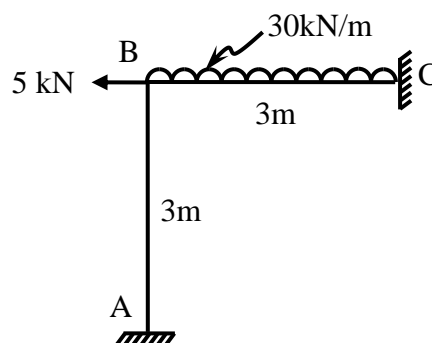

Fig. 2
2. Analyze plane frame shown in fig.2 by Stiffness Matrix Method system approach. Draw axial force, shear force and bending moment diagrams showing all salient points.
5. Analyze plane frame shown in fig.2 by Flexibility Matrix Method system approach. Draw axial force, shear force and bending moment diagrams showing all salient points.